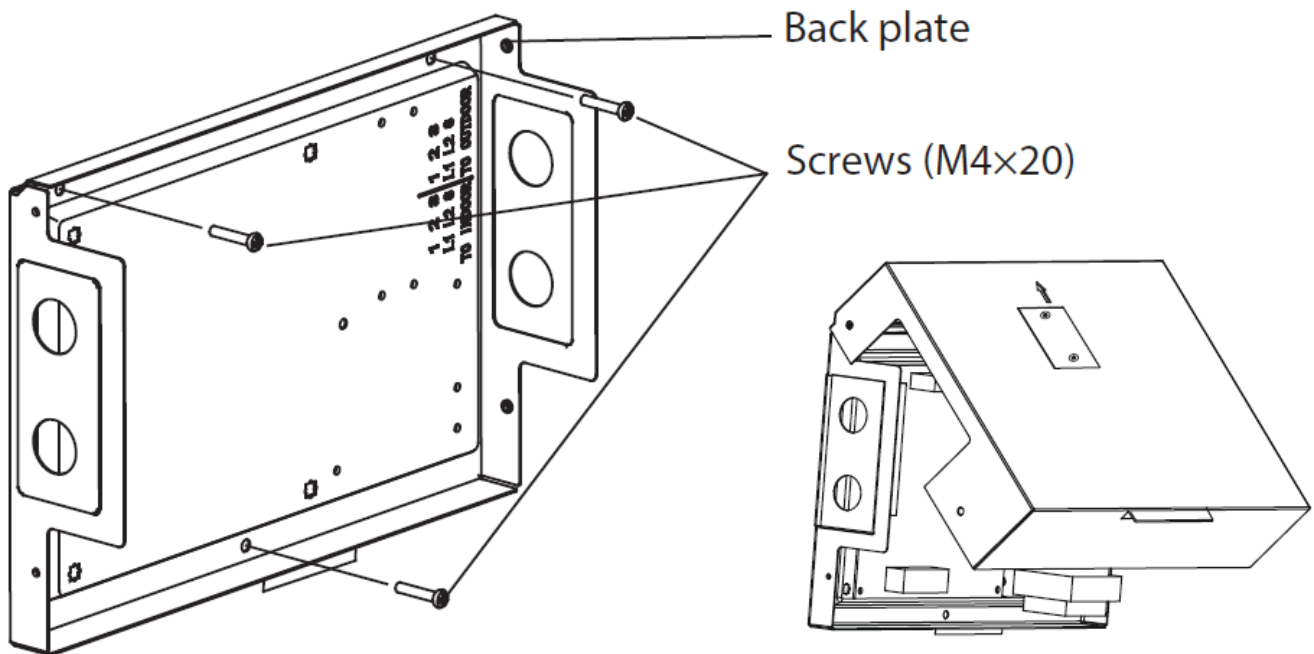

Fig. 3
5. Wire the connections according to the specified wiring diagram (Fig. 3).